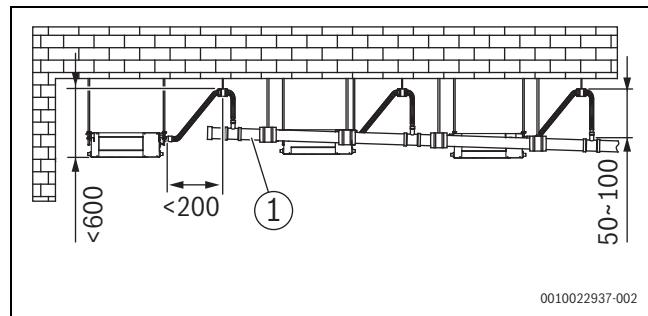
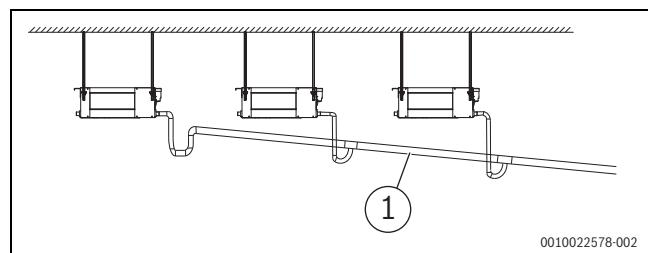

Fig. 25 Installation and distances of water discharge piping with a water pump [mm]
Fig. 26 Installation of water discharge piping without a water pump
- ▶ Install the drainage pipes as shown in figure 25 (with a water pump) and figure 26 (without a water pump). The drainage piping outlet should not be higher than the drainage height, ensuring a downward slope of more than 1/100.